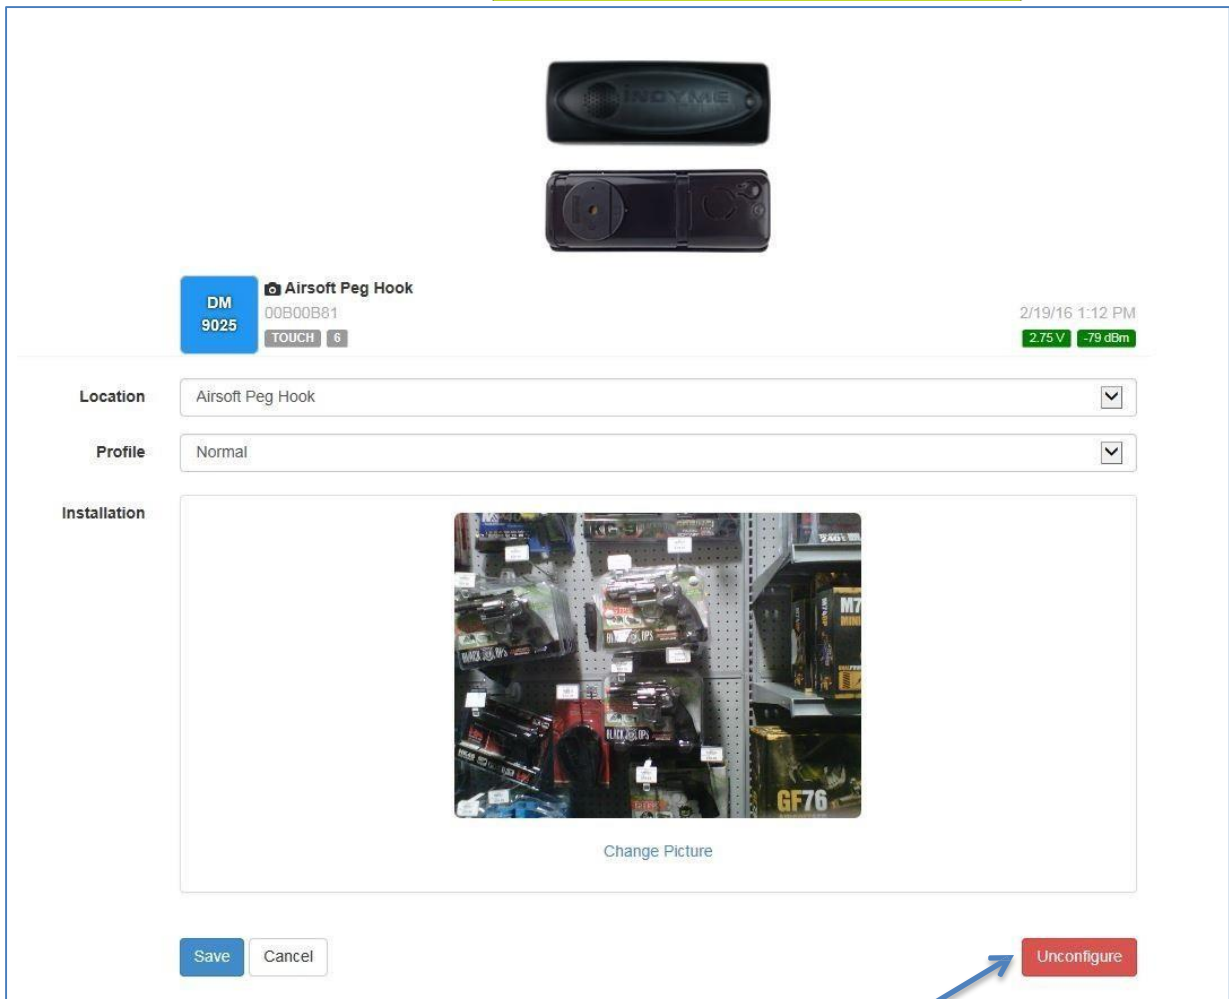

Figure 4
- 6 - Select Unconfigure (see Figure 4). The Touch Sensor is now ready to be programmed to the new location.